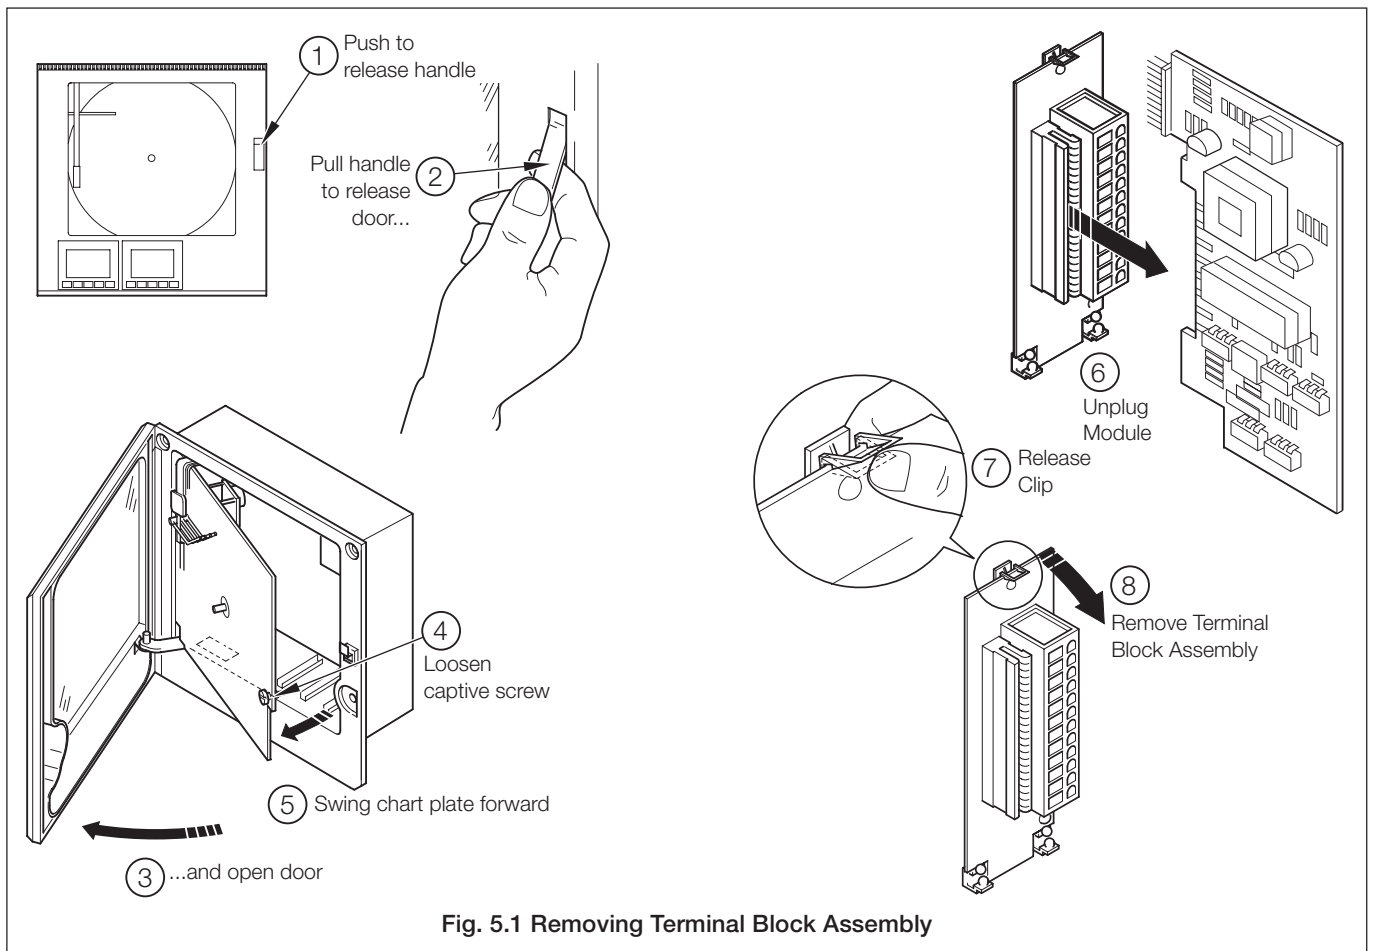

Fig. 5.1 Removing Terminal Block Assembly
- The terminal blocks can be removed from the main PCB when making connections – see Fig. 5.1. Before removing a module, note its position.
### 5.1 Identifying the Input/Output Modules – Fig. 5.1
To gain access to the modules, open the door and chassis – see Fig. 5.1. There are five module positions (2 to 6) as shown in Fig. 5.2.